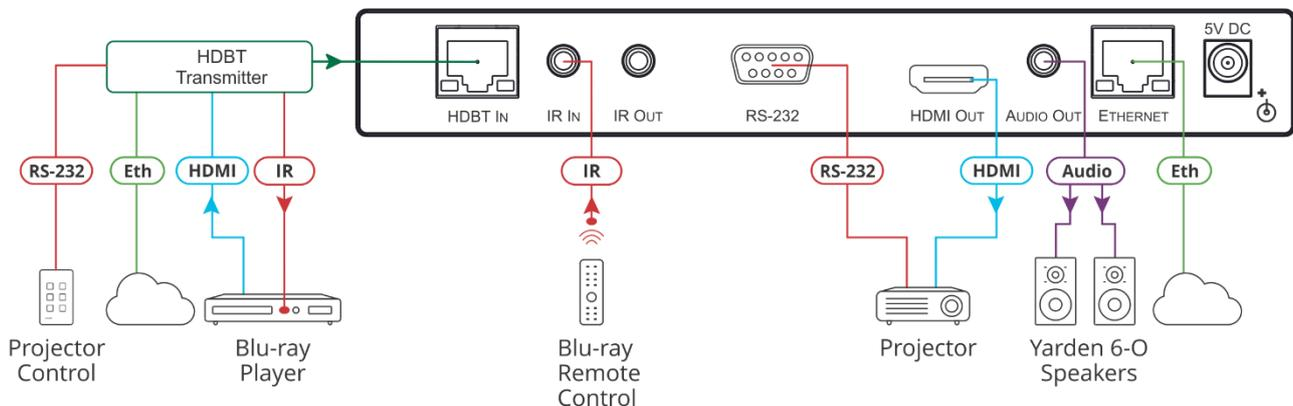

Figure 1: Connecting to the **VP-427H2**
To connect **VP-427H2** as illustrated in the example in Figure 1:
1. Connect the HDBT output from an HDBaseT transmitter (for example, the Kramer **TP-580Txr**) to the HDBT IN RJ-45 connector on the **VP-427H2** (7).
2. Connect the HDMI OUT connector (11) to an HDMI acceptor (for example, a projector).
3. Connect the RS-232 9-pin D-sub connector (10) to an RS-232 port (for example, a projector).
4. Connect the AUDIO OUT 3.5mm mini jack connector (12) to an unbalanced stereo audio acceptor (for example, an amplifier).
5. Connect the IR IN 3.5mm mini jack connector (8) to an IR sensor (to control the device attached to the transmitter using a remote).
6. Connect the RJ-45 Ethernet port (13) to tunnel Ethernet data via HDBT IN.
7. Connect the supplied power adapter to the 5V DC power socket (14) of the **VP-427H2** and plug the adapter into the mains electricity (not shown in Figure 1).
Figure 1 depicts a Kramer Room Controller on the transmitter side controlling the projector on the receiver side using RS-232, and a Blu-ray remote on the receiver side controlling the Blu-ray player on the transmitter side using IR.